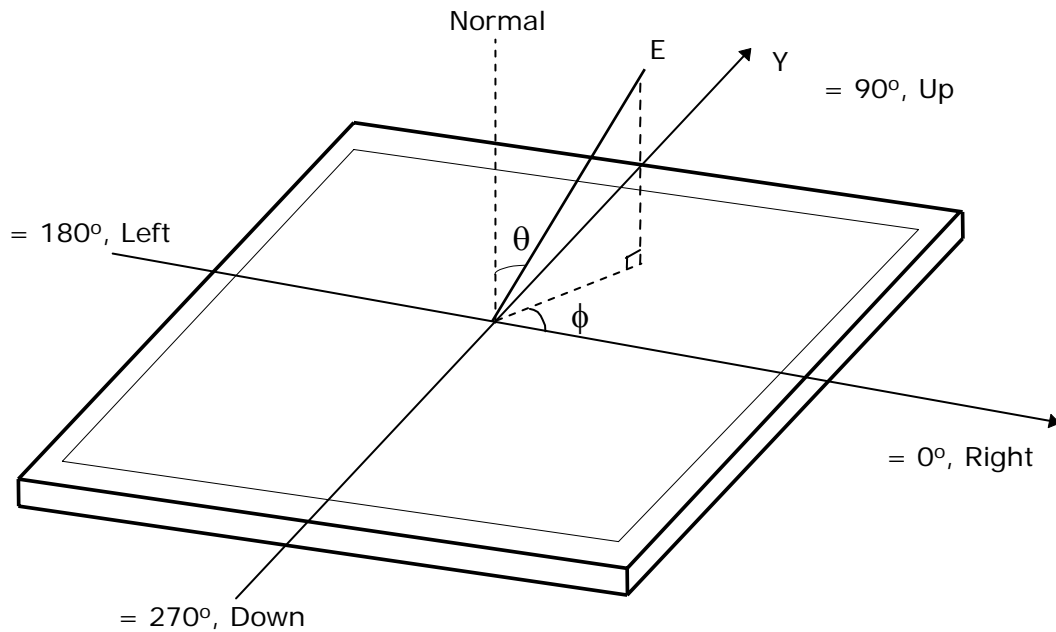

FIG. 4 Viewing angle
5. Viewing angle is the angle at which the contrast ratio is greater than 10. The angles are determined for the horizontal or x axis and the vertical or y axis with respect to the z axis which is normal to the LCD module surface. For more information, see the FIG. 4.